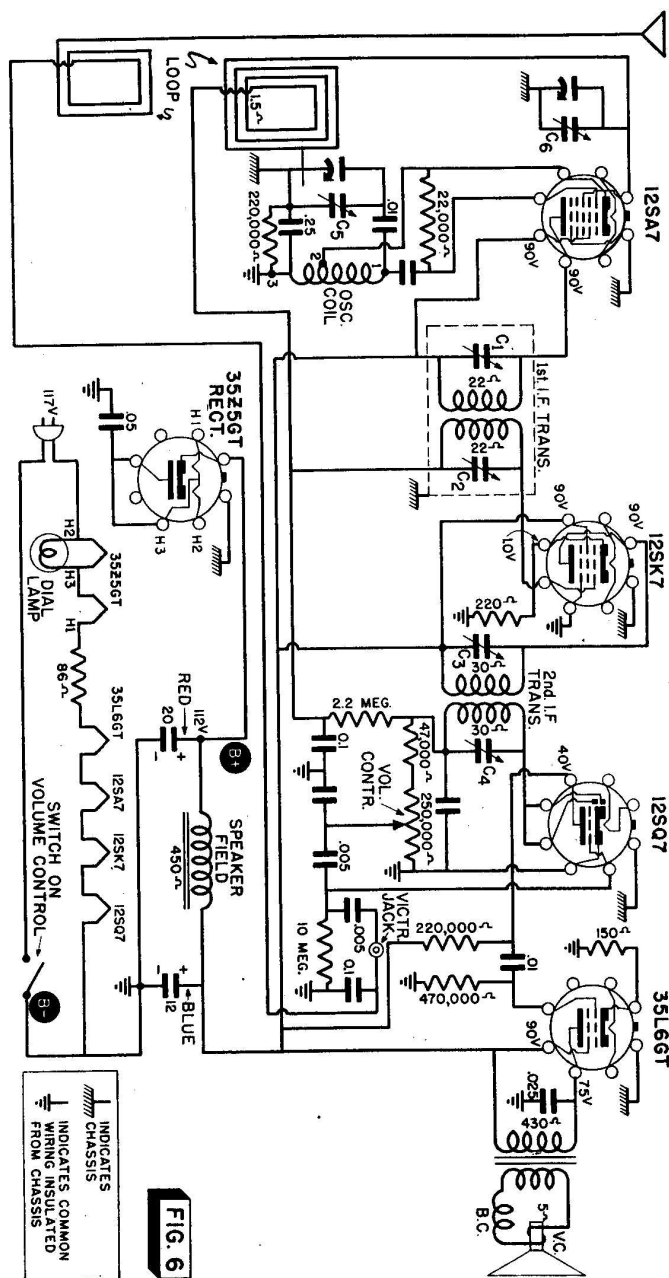

FIG. 6
**Localizing Modulation Hum.** Let's see how you could go about locating the stage in which hum modulation starts. Fig. 6, a typical a.c.-d.c. receiver, will serve as our example. At the start you know that the modula-
**Localizing Steady Hum.** Now suppose the hum is in the power supply or the a.f. section of the receiver shown in Fig. 6. First check the 20-mfd. and 12-mfd. sections of the filter, and test for cathode-to-heater leakage in the 12SQ7 and 35L6 tubes.